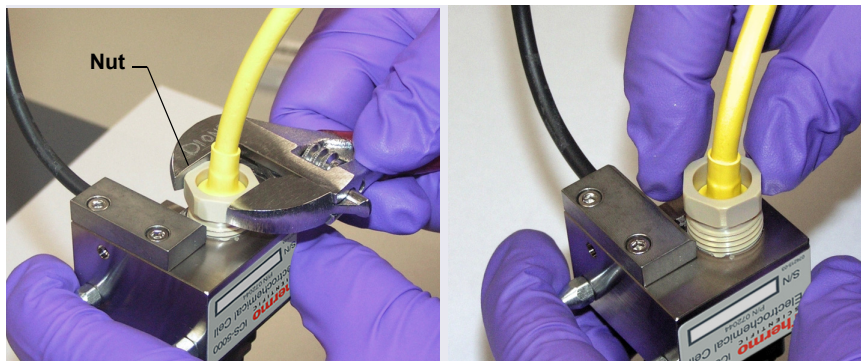

Figure 10-71. Unscrewing the PdH Reference Electrode Nut
2. Use a wrench to unscrew the PdH reference electrode nut and then remove the nut from the reference electrode well (see Figure 10-71).